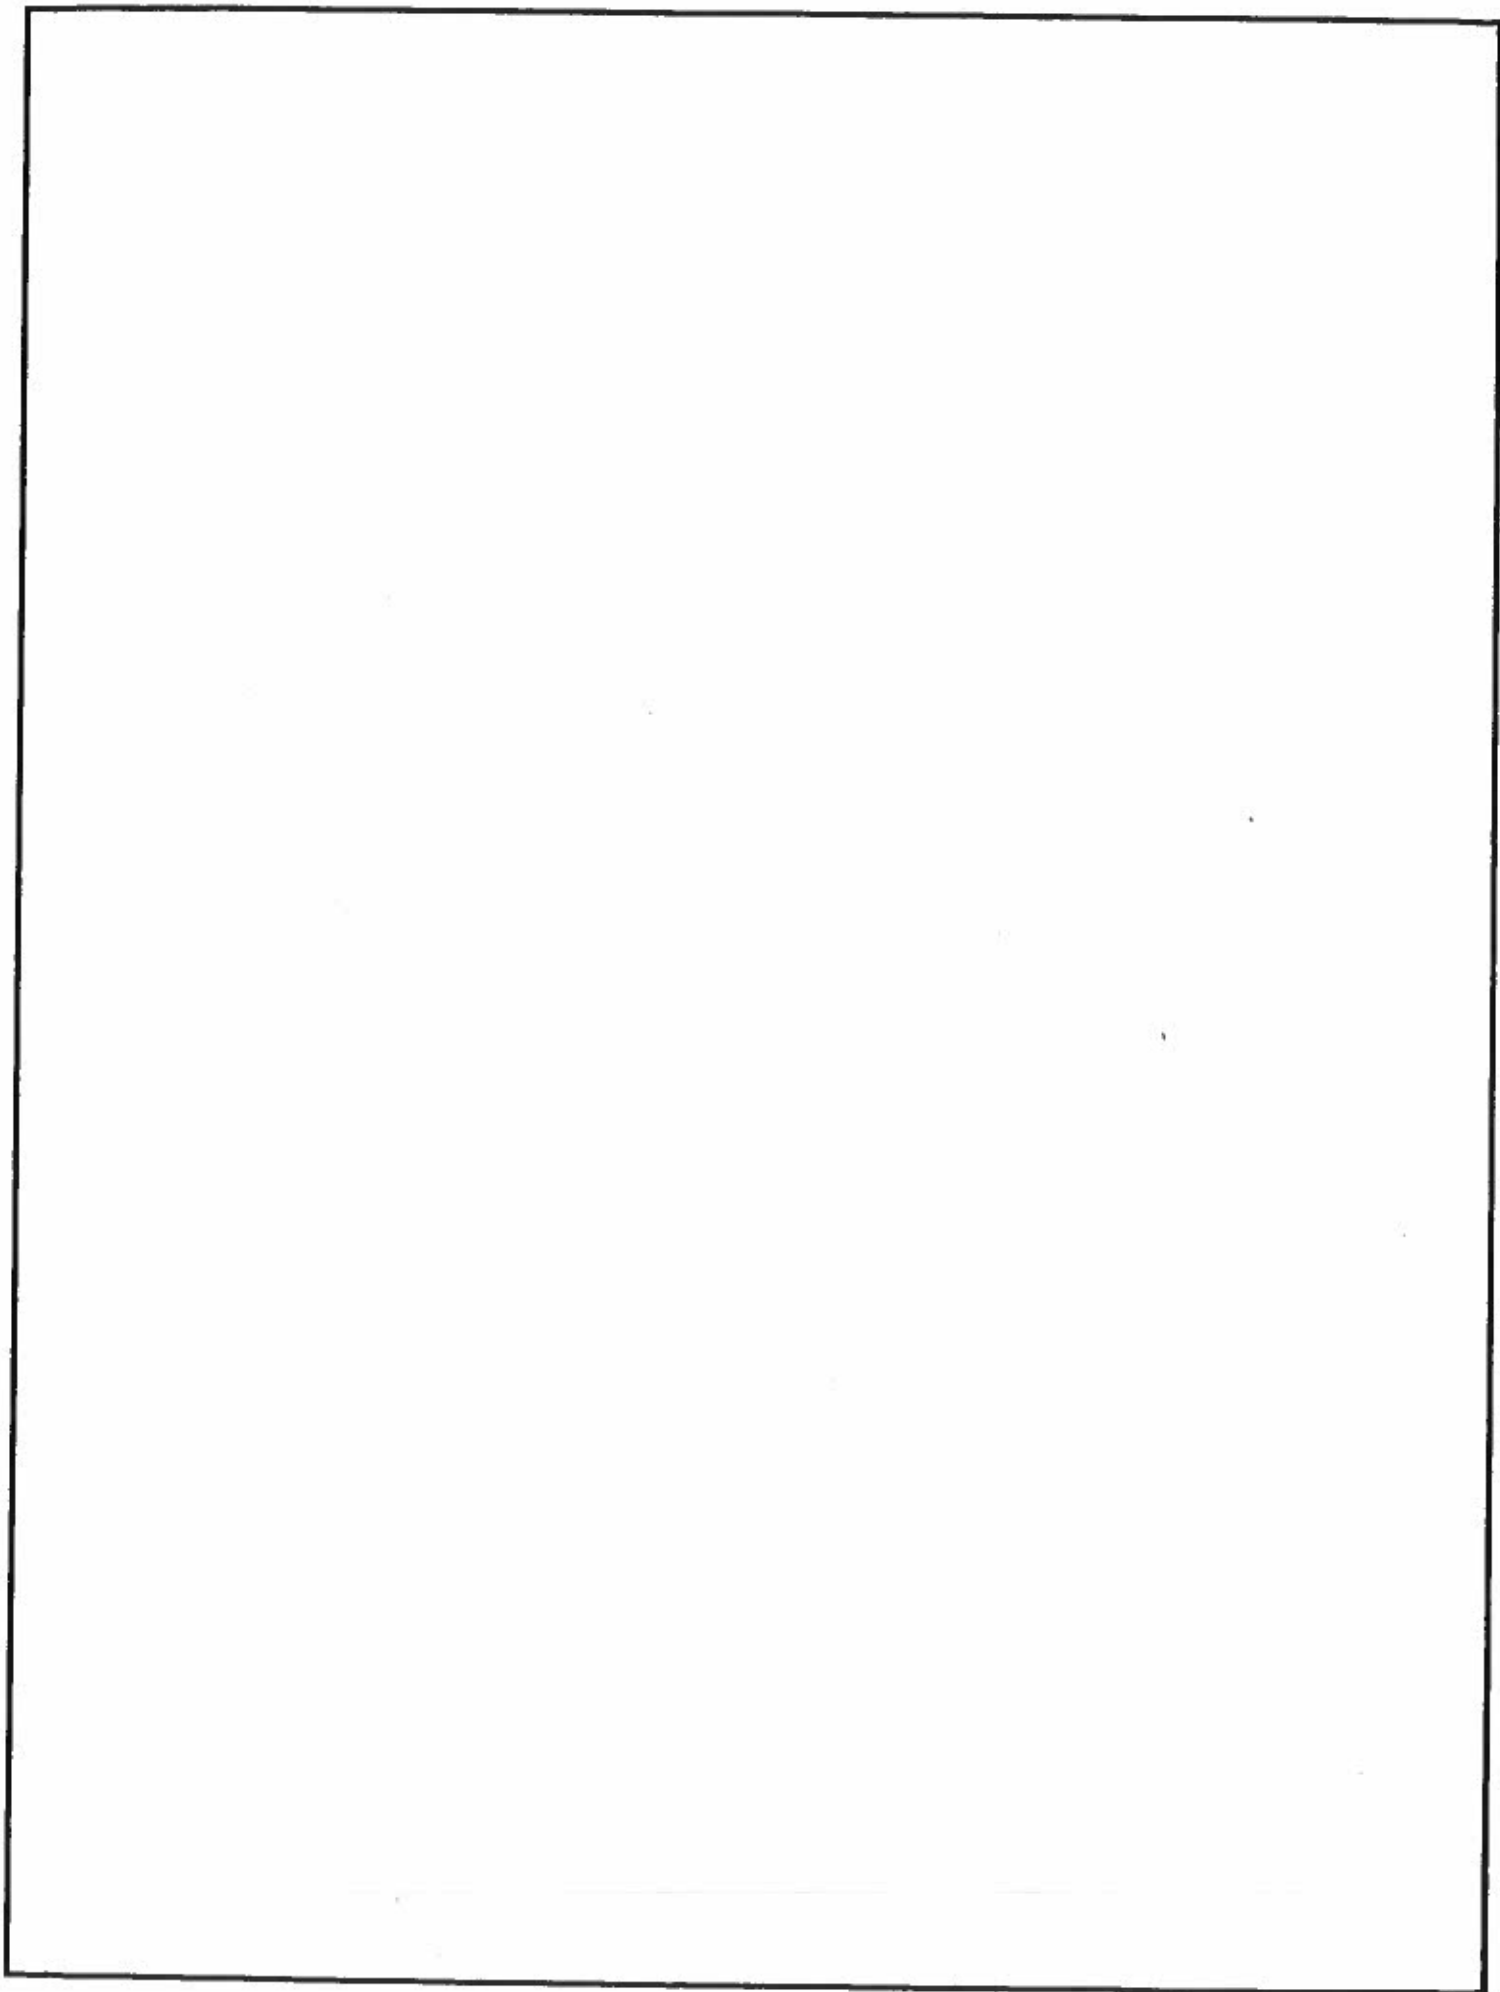

Figure 1 –Bicycle Brake
Mobile boom cranes are very important machines that perform difficult construction tasks such as construction 100m tall wind turbines. An example of such a crane from US patent 6,568,547 is shown in Figure 1. The tall boom (3) can range between 20-180m. To keep the crane from tipping forward when it lifts up a heavy payload, counterweights (11 and 21) are suspended from the mast (5) at the back of the machine. Given the cranes massive height and large carrying capacity, the design of the boom is very important, both for performance and safety.
a) The crane can tip over both the forward and rearward edges of the crawler tracks (1). You can assume that the when the crane is in the configuration shown in the figure that the boom and mast balance each other out, so that we can just focus on the effects of the payload and the counterweight. Assume the boom is 50m long, the payload weights 200 metric tons, and it is located 5m in front of the tracks. Further assume that the tracks are 8 m long. The counterweight weighs 100 metric tons and is located 7m rearward of the back of the tracks. Will the crane tip over? If so, in which direction (forward or backward)? (2pts).
1. In Figure 1, an isometric as well as a schematic multiview of a bicycle brake is shown. Referring to Figure 1, describe the most likely failure points (excluding brake pads) and explain your reasoning. (2 pt.)
2. What type of springs are the ones labeled 1457 and 1458 in Figure 1 and what is the principal stress? (1 pt.)